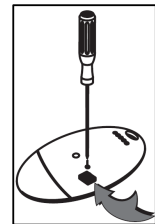

FIG. 13
4. The display will show **"Hidden button"**. Press the hidden button of the transmitter you want to store as shown in Fig. 13.